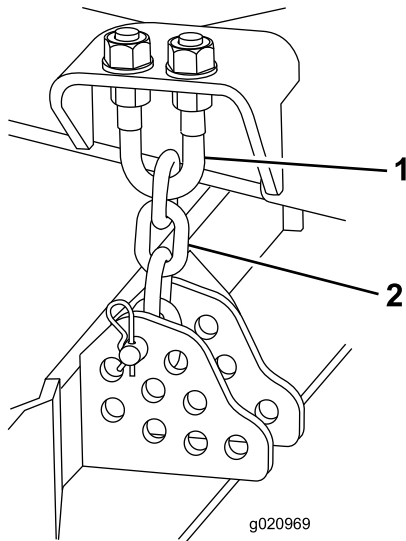

Figure 77
3. Remove the hairpin cotter and clevis pin securing the height-of-cut chains to the rear of the cutting unit (Figure 77).